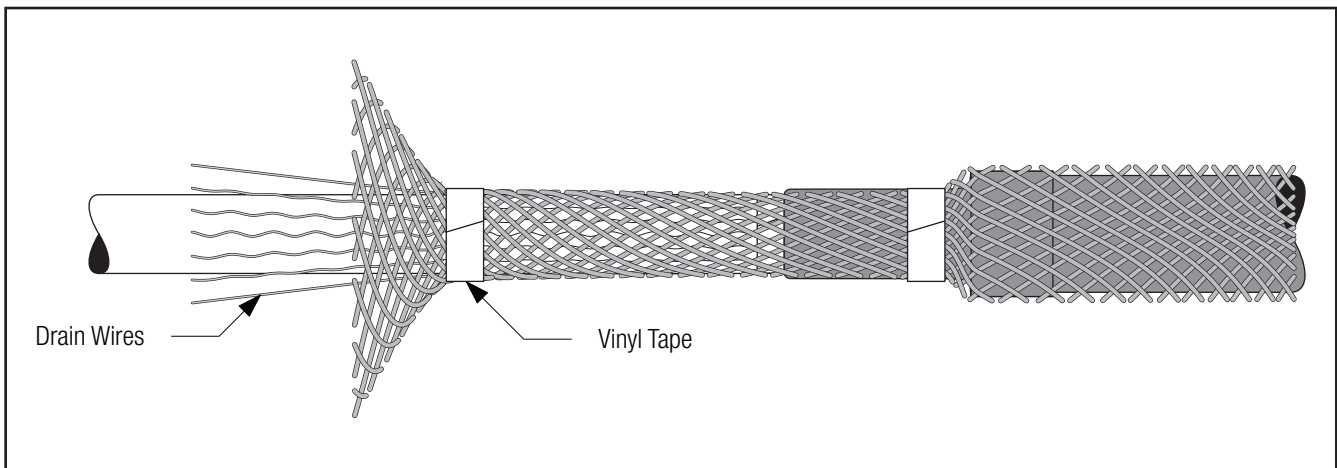

Figure 28
6.4.1 Carefully remove vinyl tape from drain wires. Secure sleeve to cable semi-con jacket next to bent-back shield drain wires using two wraps of vinyl tape (*Figure 28*).